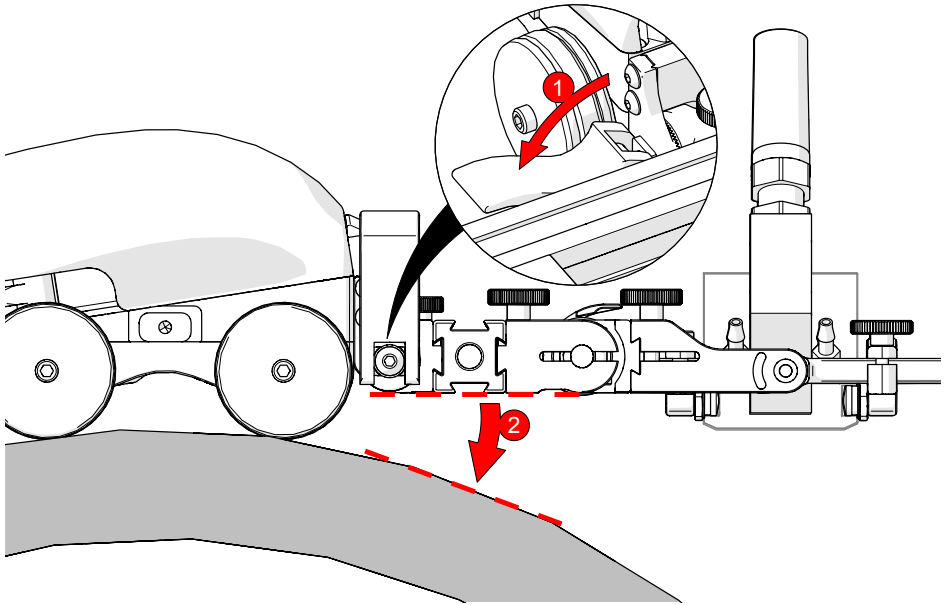
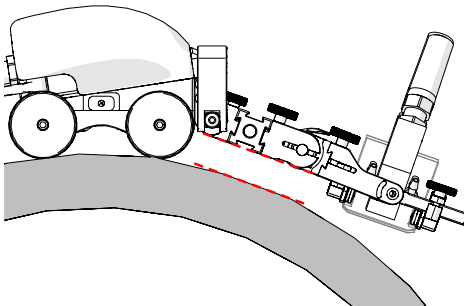

Fig. 97 - Lower pivot nose
Fig. 98 - Parallel with scan surface tangent
5. Adjust the pivot nose (Fig. 97) angle to align the frame bar parallel with the tangent of the scan surface (Fig. 98).